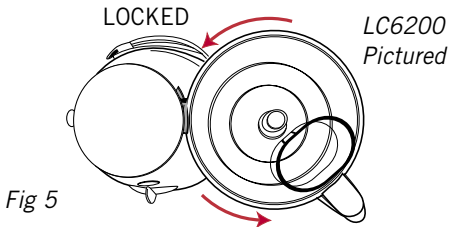

Fig 5
5. To lock the processor cover into position, ready for use, turn the cover to the right. The holding lip should be flush with the top of the bowl handle, see Figure 5.